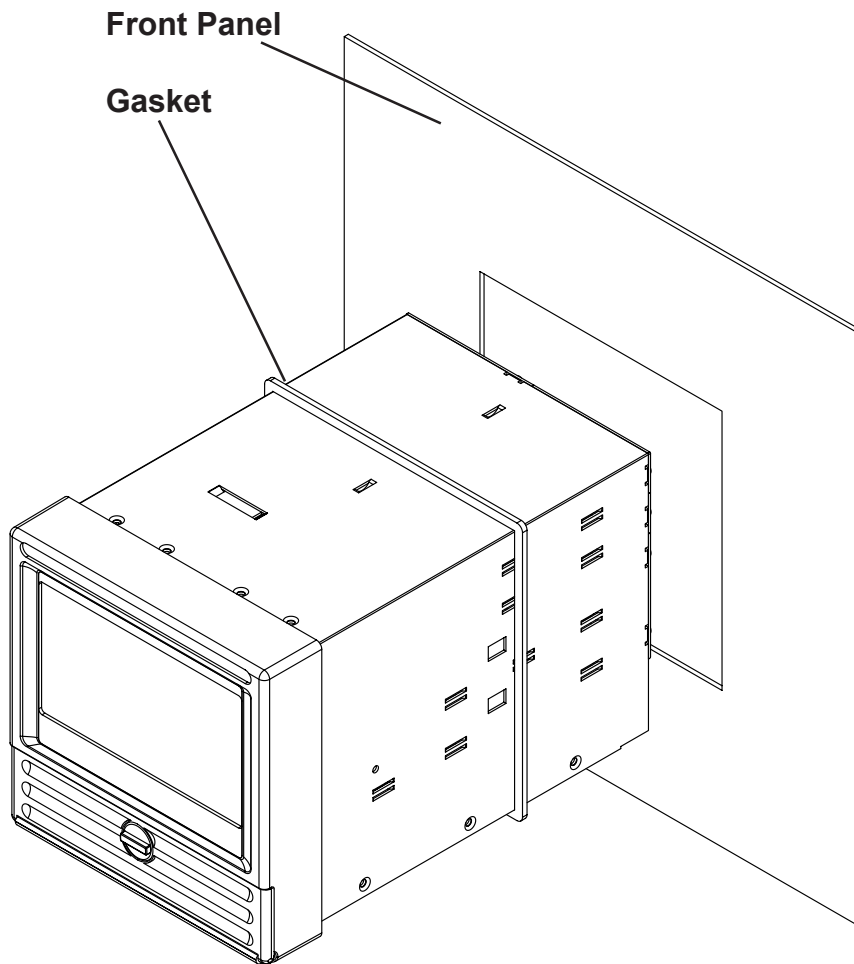

Figure 2-2 Front Panel Insertion
- 2.2.1.4 Insert the Recorder **rear end first**, into the panel opening from the front of the panel as shown in Figure 2-2. Ensure that the gasket is between the front bezel of the Recorder and the front panel.